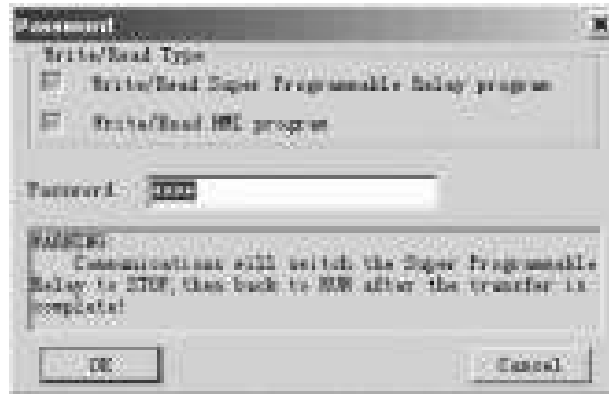

Fig. 4.23 Confirm Password
c. Click option “PC->Super Programmable Relay” under menu “Controller”; or click button “” in toolbar, dialog box shown as Fig. 4.23, input your password (attn: the original password is 2002).
a. Click option “Super Programmable Relay->PC” under menu “Controller” with left button of mouse, or click “” under toolbar, dialog box like Fig. 4.23 appears, input your password (Attn: the original password is 2002)